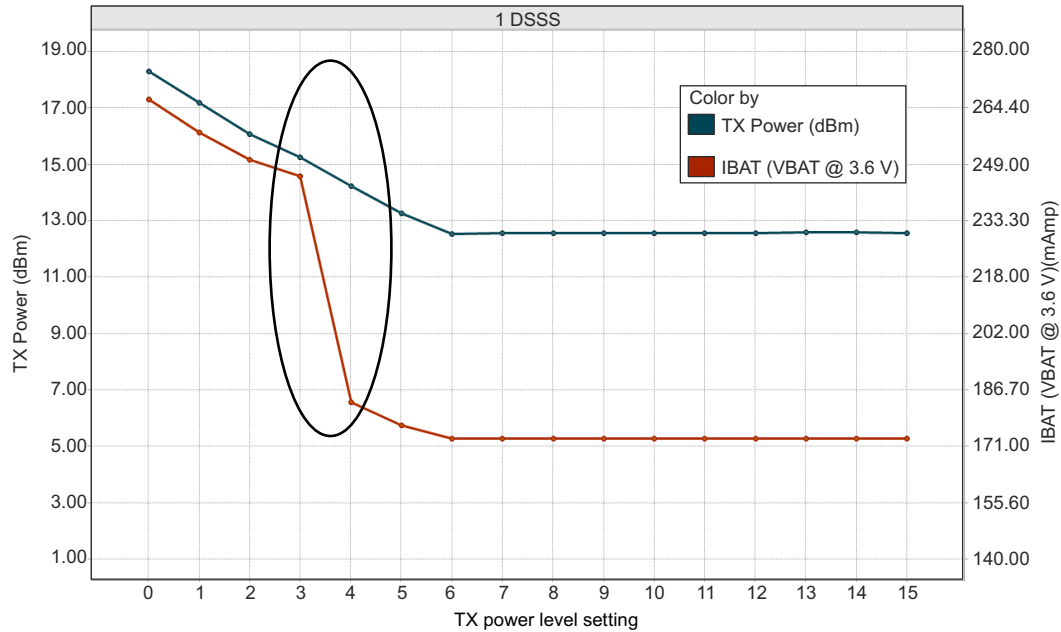
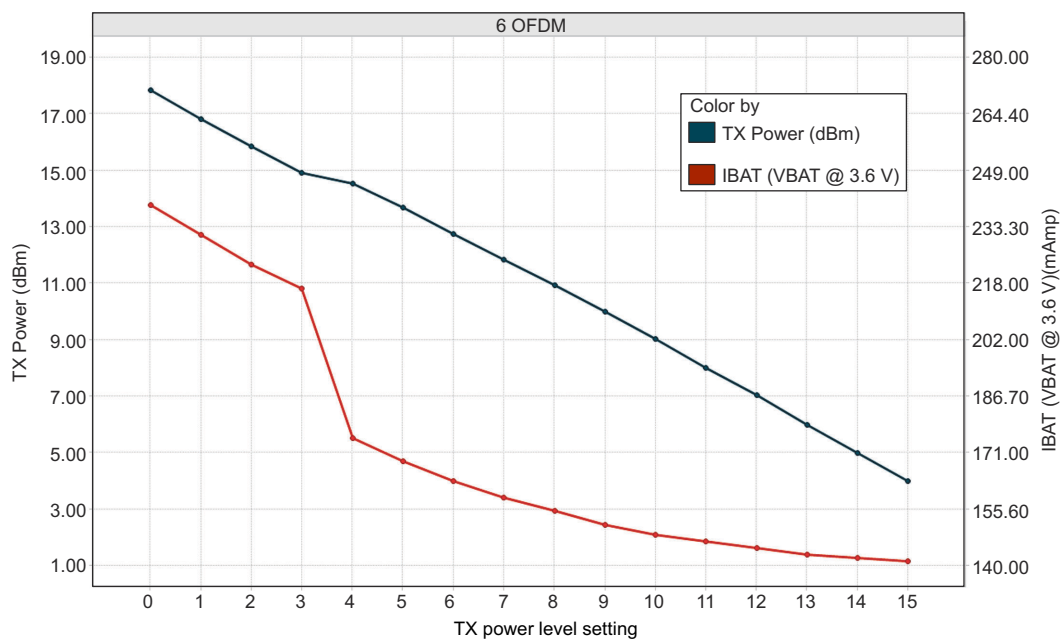
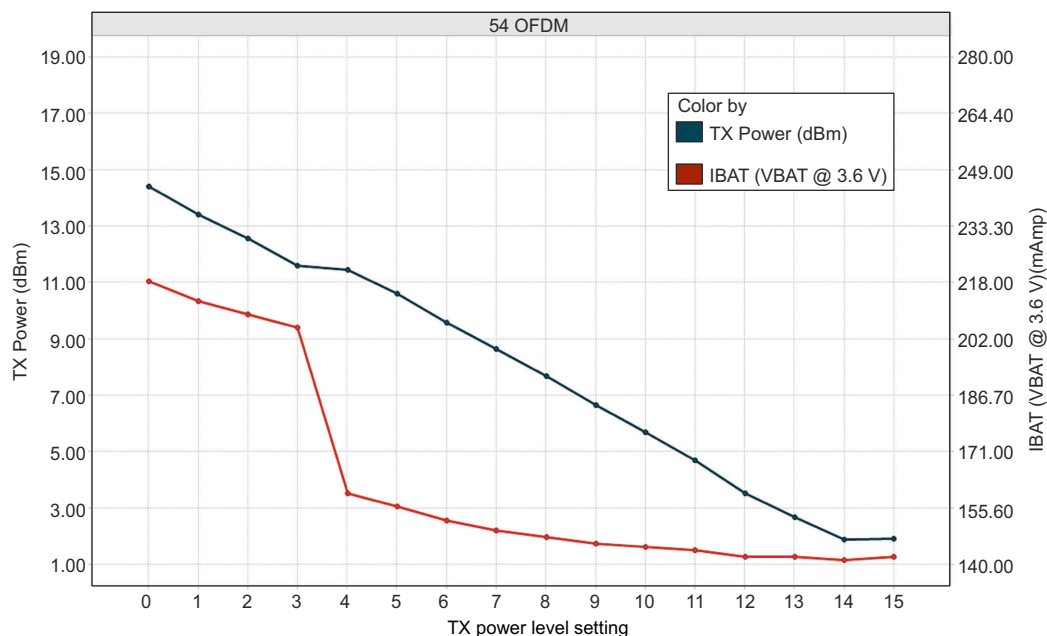

图 8-1. TX Power and IBAT vs TX Power Level Settings (1 DSSS)
图 8-2. TX Power and IBAT vs TX Power Level Settings (6 OFDM)
图 8-3. TX Power and IBAT vs TX Power Level Settings (54 OFDM)
- (1) TX power level = 0 implies maximum power (see 图 8-1, 图 8-2, and 图 8-3). TX power level = 4 implies output power backed off approximately 4 dB.
- (2) The CC3235x system is a constant power-source system. The active current numbers scale based on the V_{BAT} voltage supplied.
- (3) Typical numbers assume a VSWR of 1.5:1.
- (4) DTIM = 1
- (5) LPDS current does not include the external serial flash. The LPDS number of reported is with retention of 256KB of MCU SRAM. The CC3235x device can be configured to retain 0KB, 64KB, 128KB, 192KB, or 256KB of SRAM in LPDS. Each 64-KB block of MCU retained SRAM increases LPDS current by 4 μA .
- (6) The complete calibration can take up to 17 mJ of energy from the battery over a period of 24 ms. Calibration is performed sparingly, typically when coming out of HIBERNATE and only if temperature has changed by more than 20°C. The calibration event can be controlled by a configuration file in the serial flash.
图 8-1, 图 8-2, and 图 8-3 show TX power and IBAT versus TX power level settings for the CC3235S device at modulations of 1 DSSS, 6 OFDM, and 54 OFDM, respectively. For the CC3235SF device, the IBAT current has
In 图 8-1, the area enclosed in the circle represents a significant reduction in current during transition from TX power level 3 to level 4. In the case of lower range requirements (14-dBm output power), TI recommends using TX power level 4 to reduce the current.